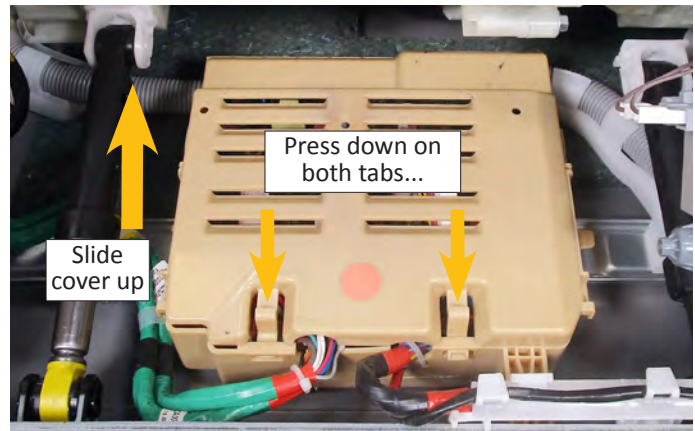

Figure 2
6. Press the two tabs on the cover and slide the ACU cover up to remove (see Figure 2).